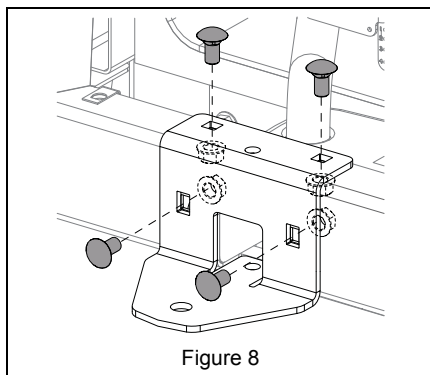

Figure 8
See Figure 8.
2. Position trailer hitch over frame as shown in Figure 8.